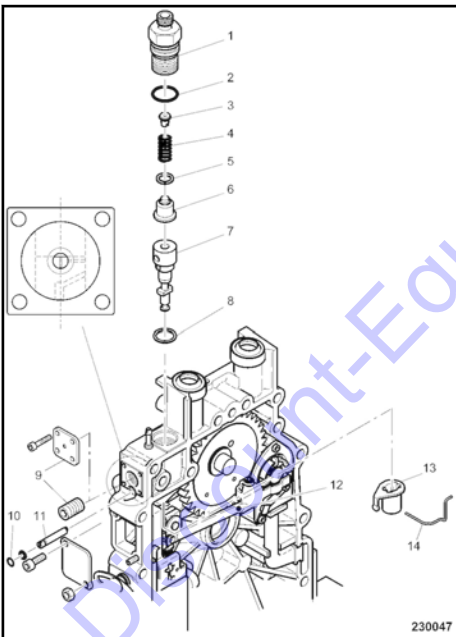

Fig. 82
Unscrew the pressure valve holder (1) ↪ Fig. 82 with O-ring (2).
Remove shim (8) ↪ Fig. 82.